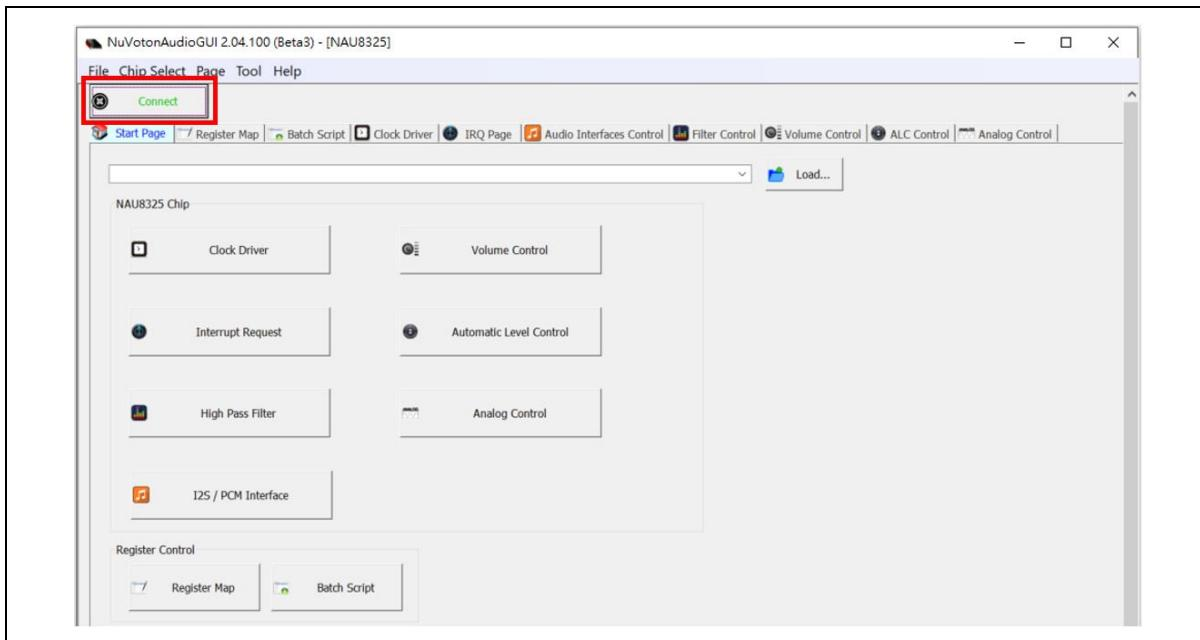

Figure 3-6 NuvotonAudioGUI Operating Step (3)
3. NuvotonAudioGUI will automatically read connection status. If the hardware and software are properly configured, a green [Connect] will appear on the upper left corner of the NuvotonAudioGUI window, as shown in Figure 3-6. Then users can issue I2C commands through NuvotonAudioGUI to control NL-NAU8325.